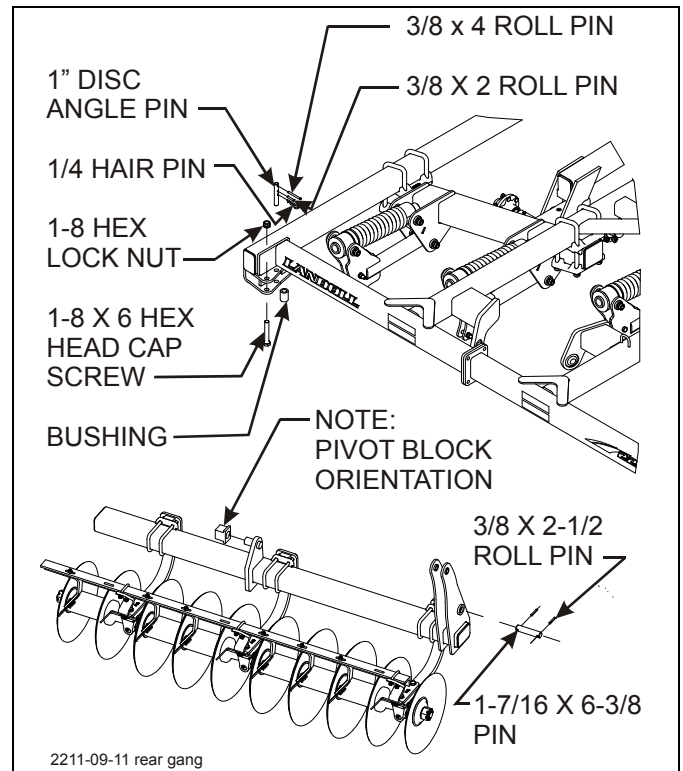

Figure 3-13: Rear Disc Gang Installation (2211-09 and -11)
8. Install rear disc gang in the same manner as described in **steps 4 thru 7 (See Figures 3-13 and 3-14.)**